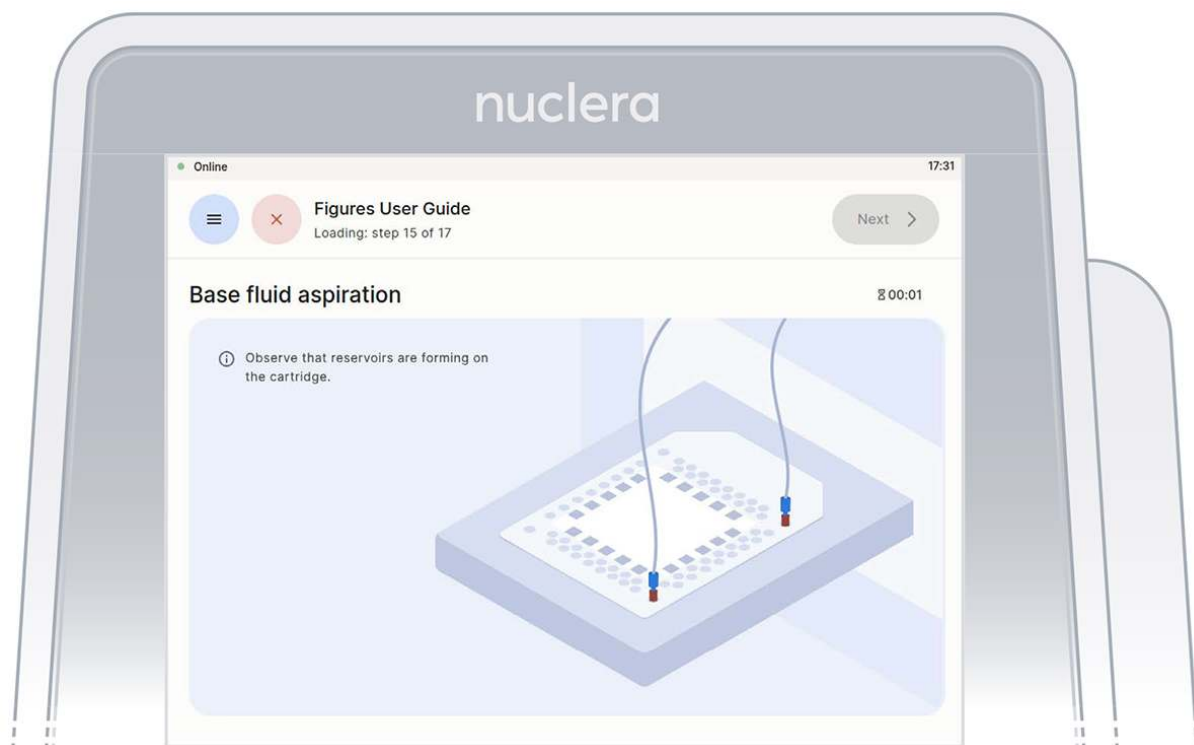

Figure 24: Base fluid aspiration
1. Press the **[Next]** button to start the aspiration of the base fluid and the loading of the reagents on the cartridge (Figure 24).